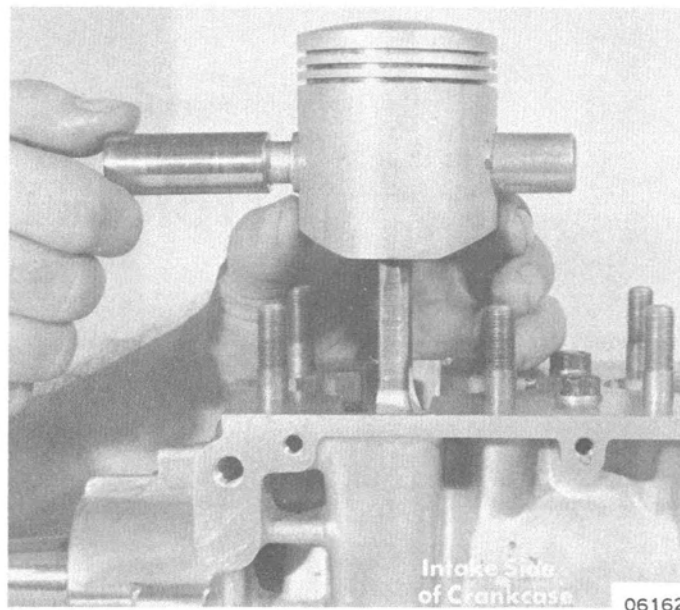

Figure 5. Installing Piston Pin
7. Place piston over connecting rod. Push out sleeve with Piston Pin Tool (C-91-54453A1). Set piston pin on small end of piston pin tool. (Figure 5)